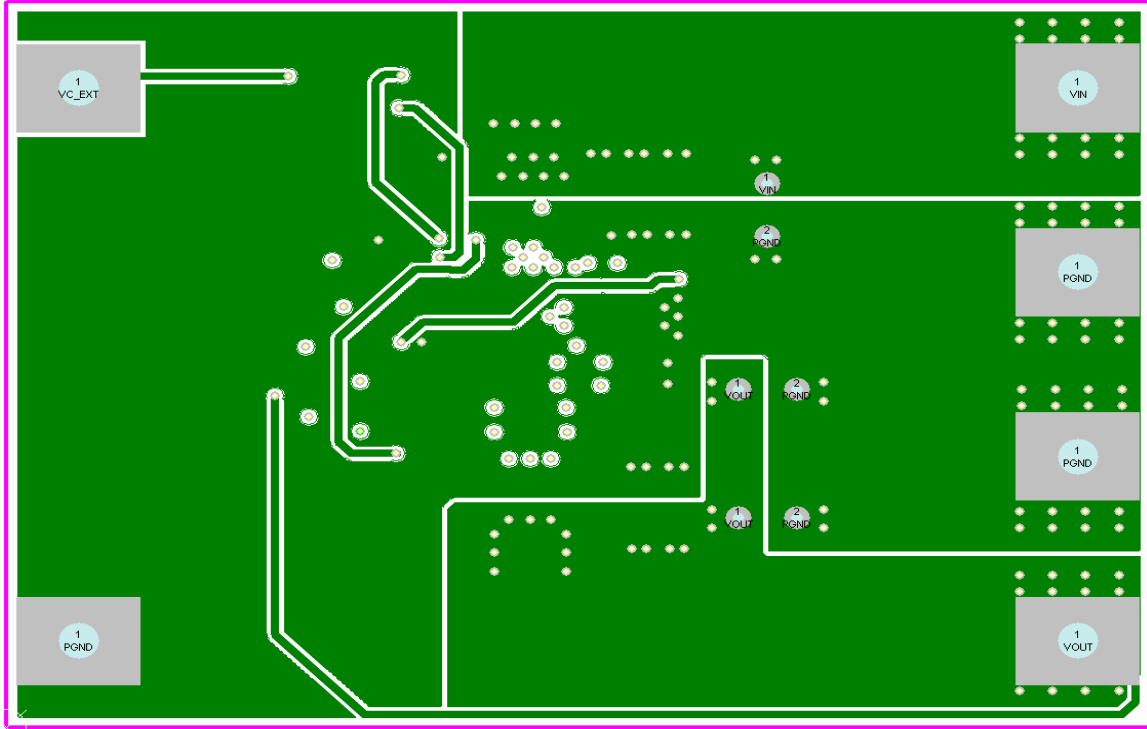

Figure 3c: IRPP3637-12A Reference Design mid-layer2 layout.
4. The feedback track from the output  $V_{OUT}$  to FB pin of the IC is routed as far away from noise generating traces as possible in mid-layer 2 as shown in figure 3c.